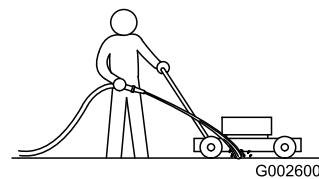

Figure 49
- With the engine running on a flat paved surface, spray a stream of water in front of the **right** rear wheel (Figure 49).